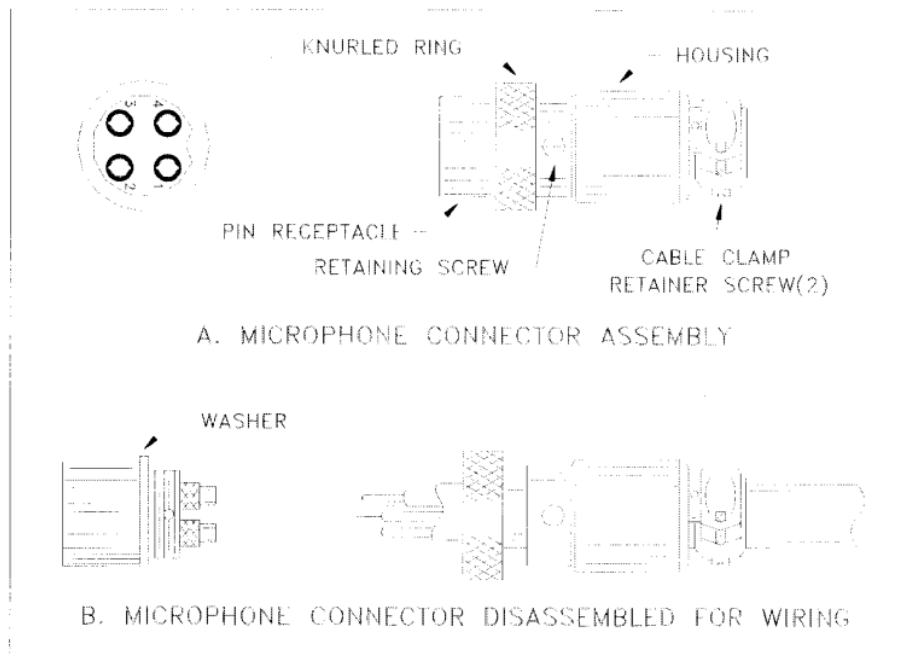

Fig. 2 Microphone plug wiring
4. Feed the microphone cable through the housing, knurled ring, and washer as shown in Fig. 2.
Be sure that the housing and the knurled ring of Fig. 2 are pushed back onto the microphone cable before starting to solder. If the washer is not captive to the pin receptacle body, make sure that it is placed on the threaded portion of the pin receptacle body before soldering. If the microphone jack is used to hold the pin receptacle during the soldering operation, the best results are obtained when the connections to pins 1 and 3 are made first, and then the connections to pins 2 and 4. Use a minimum amount of solder and be careful to prevent excessive solder accumulation on pins, which could cause a short between the pin and the microphone plug housing.